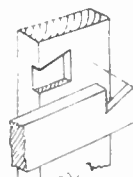
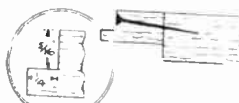

Fig. 4—Dove-tail joint in the rails
Fig. 3—Nailed joint
In construction the inner edges of the top, bottom, and inner end rails, and both edges of the dividing rails should be rebated, as shown in Fig. 3, to form recesses for the glasses and photographs. The top and bottom rails are then dovetail lapped into the end rails, as shown at (B) Fig. 2 and in detail Fig. 4. It will be noticed that half only of each face of the frame, front and back, is given here in Fig. 2.
Fig. 3. The inner rebated rails are also skew-nailed to the top and bottom rails, and the extreme top rail—or shelf, as it may be called, glued and screwed from above.